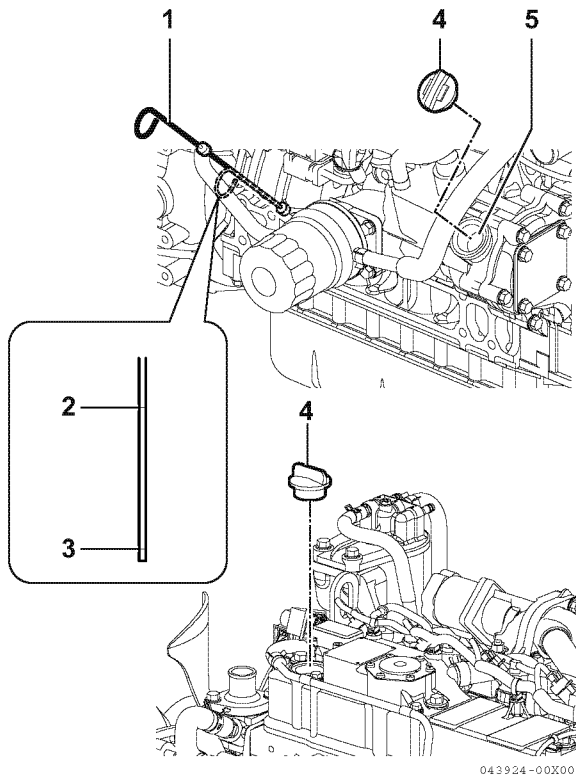

Figure 4-21
2. Remove the dipstick (**Figure 4-21, (1)**) and wipe it with clean cloth.
4. Remove the dipstick. The oil level should be between the upper (**Figure 4-21, (2)**) and lower (**Figure 4-21, (3)**) lines on the dipstick.
2. Remove the oil cap (**Figure 4-21, (4)**).
3. Add the indicated amount of engine oil at the top or the side engine oil filler port (**Figure 4-21, (5)**).
6. Reinstall the oil cap (**Figure 4-21, (4)**) and hand-tighten. Over-tightening may damage the cap.